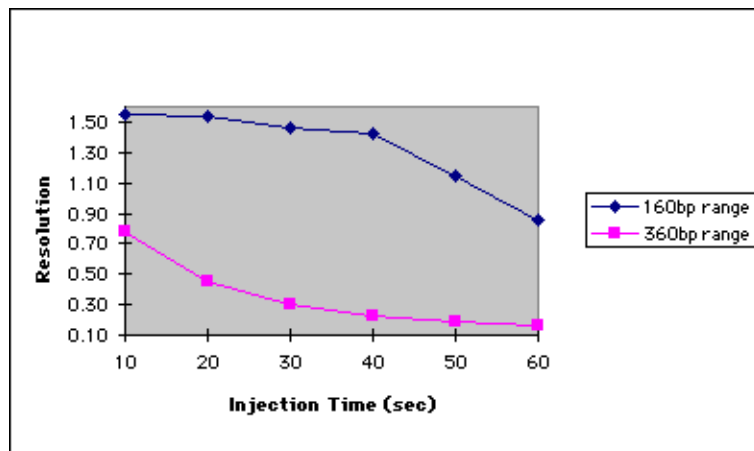

Figure 5-3 Resolution vs. injection time for different-sized fragments
- ♦ As the injection time increases, the resolution decreases because of increasing peak widths (Figure 5-3 on page 5-5). There is too much sample to move as a discrete, well-resolved band.